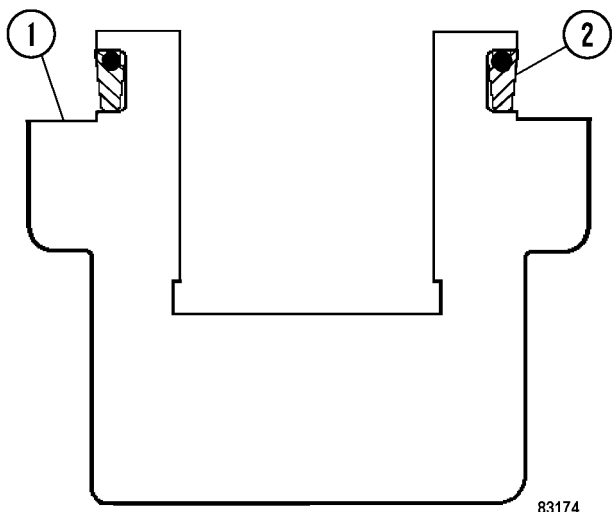
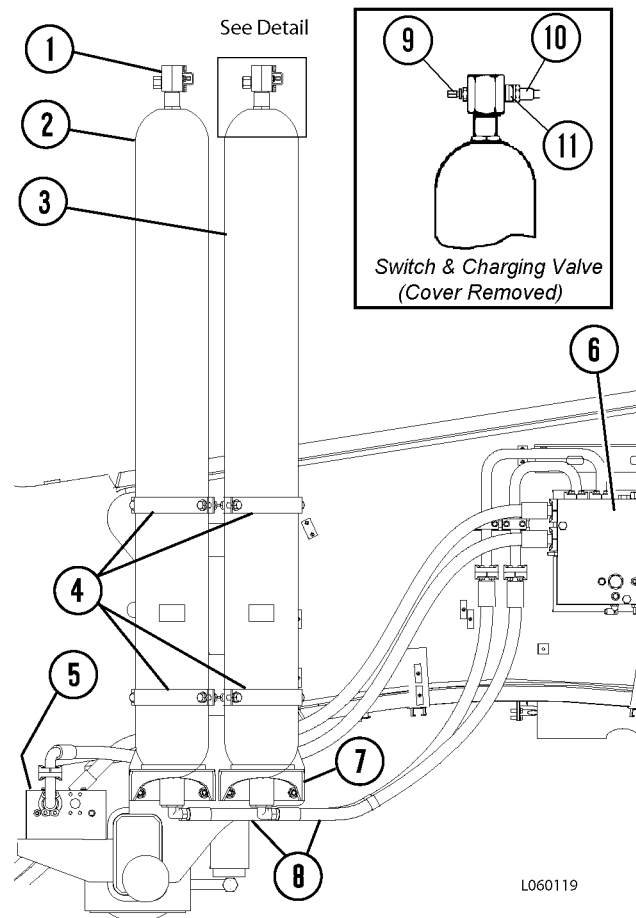

FIGURE 6-15. SEAL INSTALLATION
FIGURE 6-17. STEERING ACCUMULATORS
2. Remove cover (1, Figure 6-15). Disconnect the electrical wiring from nitrogen precharge pressure switch (10).
3. Remove the charging valve guard and loosen the small hex on charging valve (9) three complete turns. Depress the valve core until all nitrogen pressure has been relieved.
1. Lift the accumulator into position it on mounting bracket (7, Figure 6-15). The accumulator should be positioned to allow access to charging valve (9).
2. Secure the accumulator to mounting bracket (7) using mounting clamps (4), capscrews, lockwashers and nuts. Tighten the capscrews to the standard torque.
3. Connect the electrical wiring to nitrogen precharge pressure switch (10). Reconnect oil line (8) to the bottom of the accumulator.
5. Check charging valve (9), pre-charge switch (10) and check valve assembly (11) for leaks using a soap solution.
2. Remove bleed plug (12, Figure 6-17) on the hydraulic port assembly. Use a spanner wrench to remove locking ring (10) from the hydraulic port assembly. Use an adjustable wrench on the flats located on the port assembly to prevent the port assembly from rotating.
3. Remove spacer (9), then push the hydraulic port assembly into the shell.
4. Insert your hand into the accumulator shell and remove O-ring backup (8), O-ring (7), and metal backup washer (6). Separate anti-extrusion ring (3) from the hydraulic port. Fold the anti-extrusion ring and remove it from the shell (Figure 6-15).
6. To prevent the bladder valve stem from twisting, secure it with an appropriate wrench applied to the valve stem flats. Remove gas valve manifold (14, Figure 6-17). Then remove nut (5) while still holding the bladder valve stem.
11. Install charging valve cap (1) finger-tight. Install the charging valve cover,. Tighten the capscrews to **40 N·m (25 ft lb)**.
12. Install new O-ring (16, Figure 6-17) on gas valve manifold (14). Hold the bladder valve stem with a wrench and install gas valve manifold (14) securely.
13. While holding hydraulic port assembly (2) by the threaded end, insert the poppet end into the shell fluid port. Lay the complete assembly inside the shell.
14. Fold anti-extrusion ring (3) to enable insertion into the shell. Once the anti-extrusion ring has cleared the fluid port opening, place the anti-extrusion ring on the hydraulic port assembly with the steel collar facing toward the shell fluid port.
17. Install metal O-ring backup washer (6) over the hydraulic port assembly. Push it into the shell fluid port to bottom it out on the anti-extrusion ring.
18. Install O-ring (7) over the hydraulic port assembly. Push it into the shell fluid port until it bottoms out against metal O-ring backup washer (6). Ensure that the O-ring does not twist.
19. Install O-ring back-up (8) over the hydraulic port assembly. Push it into the shell fluid port until it bottoms out against the O-ring.
20. Insert spacer (9) with the smaller diameter of the shoulder facing the accumulator shell.
21. Install locking ring (10) on the hydraulic port assembly and tighten it securely. This will squeeze the O-ring into position. Use an appropriate wrench on the flats on the port assembly to ensure that the unit does not turn.
22. Install bleed plug (12) into the hydraulic port assembly.